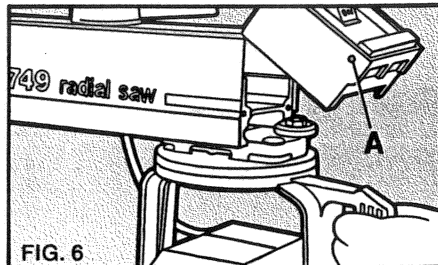

FIG. 6
5. To install motor assembly, first, back out the two set screws (A, Fig. 6) on end cap sufficiently to allow the paddle to be lifted and held in a position to remove the end cap mounting screws. Remove the two mounting screws, lift the end cap from its mounted position and place on top of the shroud being careful not to disconnect or damage wiring. Wipe arm tracks with a clean cloth prior to installation of motor assembly.